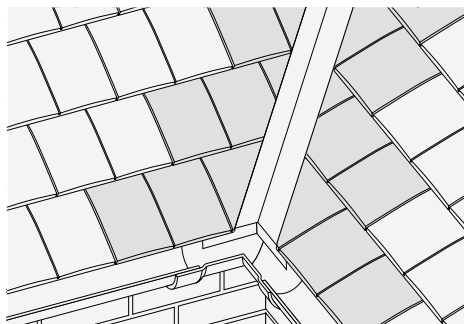

Fig. 27 – Typical bedded valley – tile-and-a-half tiles shown shaded
- 3 Bed raking cut tiles at edges of valley using mortar, ensuring that there is adequate space kept clear behind mortar to avoid water capillarity (Fig. 27).